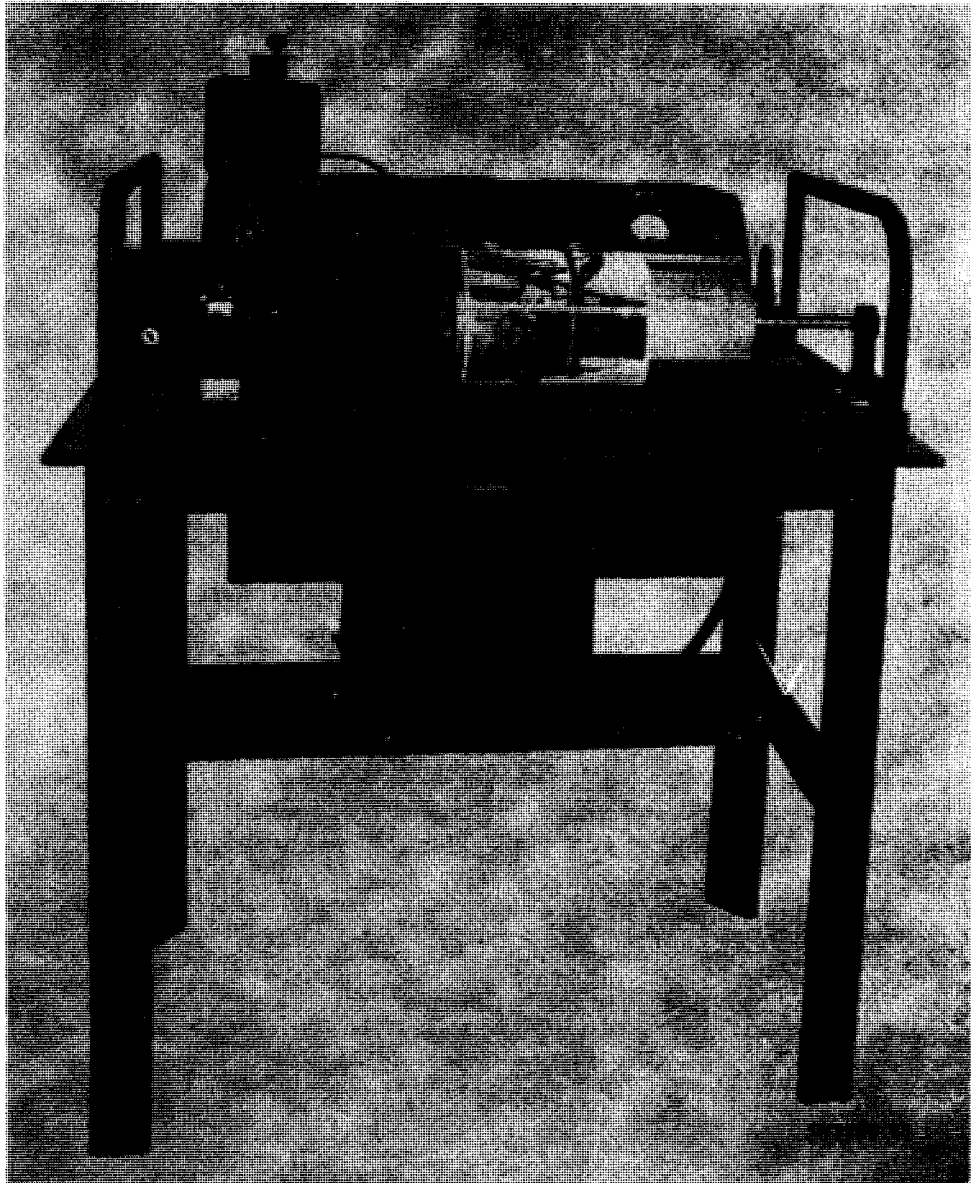

Figure 1. Facsimile sets AN/TXC-1, -1A, -1B, and -1C
a. This manual contains instructions for the installation, operation, maintenance, and repair of Facsimile Set AN/TXC-1(*) (figs. 1 and 2). Descriptions of and data for Facsimile Set AN/TXC-1(*) and auxiliary equipment also are included.
either directly on chemically coated paper or photographically in either negative or positive form. The equipment will transmit or receive a page of copy 12 by 18 inches in 20 minutes; Facsimile Sets AN/TXC-1D, -1E, and -1F have provisions for transmitting or receiving copy at half speed. When set for half-speed operation, they will transmit or receive one page of copy in 40 minutes. Principal components of Facsimile Set AN/TXC-1(*) (figs. 1 and 2) are Facsimile Transceiver TT-1(*)/TXC-1 which serves either as transmitter or receiver (depending on the setting